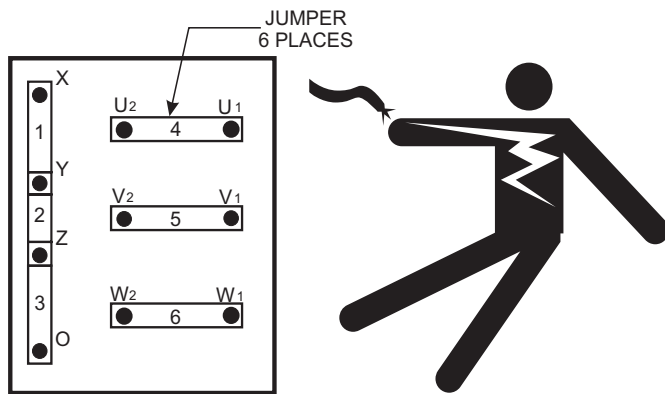

Figure 20. Voltage Change-Over Board
A wide range of voltages are available to supply voltage for many different applications. Voltages are selected by using the **voltage change-over board** (Figure 20). To obtain some of the voltages as listed in Table 9 (see below) will require a fine adjustment using the **voltage regulator (VR) control knob** located on the control panel.
The **voltage change-over board** (Figure 20) is located on the control box, behind the generator control panel. This board has been provided for ease of voltage selection.